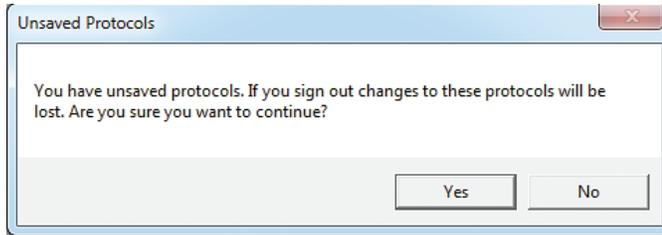

Fig. 89. Unsaved protocols check.
**Note:** If there are any unsaved protocols, the software will warn you that unsaved changes will be lost (Figure 89).